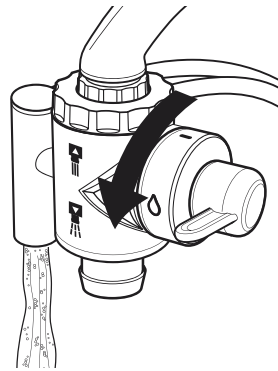

Figure 7.2 – Diverter Handle in Down (Filter) Positions
2. Move diverter handle to the horizontal (filter) position (see Figure 7.2). Observe flow, checking for change.